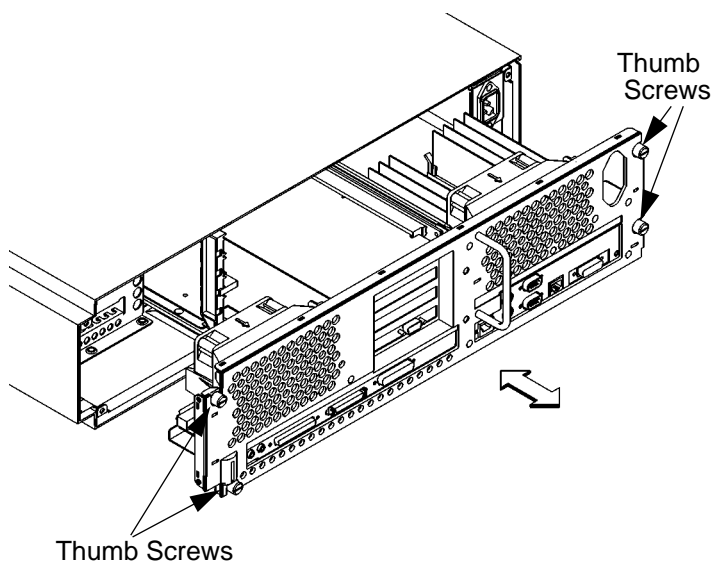

Figure 15
- 1 Align the main tray assembly with the chassis and slide it into place, as shown in Figure 15.
- 4 Start all four thumb screws loosely, then tighten them firmly. See Figure 15.